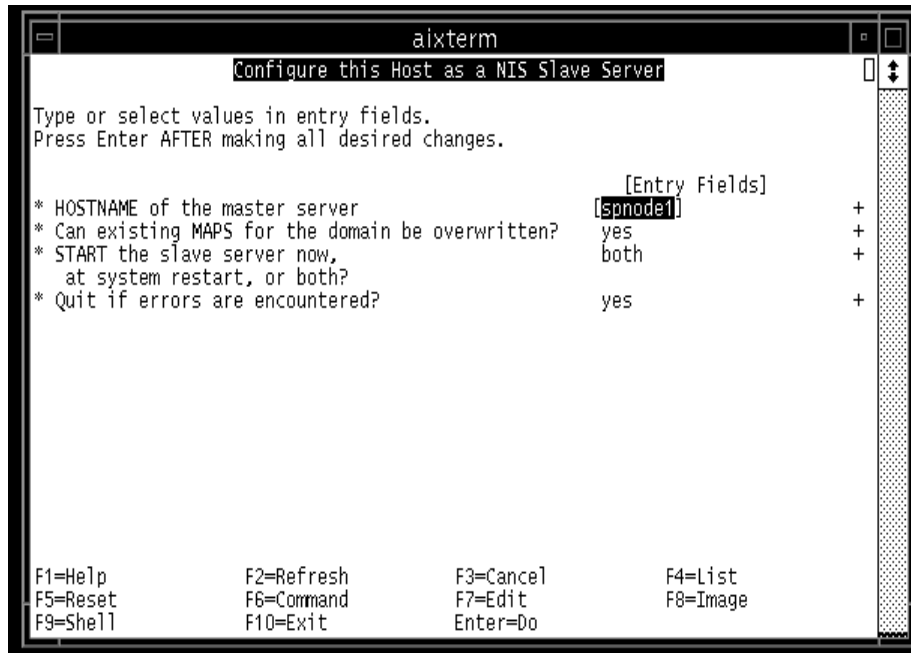

Figure 46. SMIT Panel for Configuring a Slave Server
- On the machines set aside to be slave servers, go to the NIS SMIT panels and select **Configure this Host as a NIS Slave Server**. Figure 46 on page 82 shows the SMIT panel for configuring a slave server. This step starts the `ypserv` and `ypbind` daemons on the slave servers and updates the NIS entries in the local `/etc/rc.nfs` file(s).